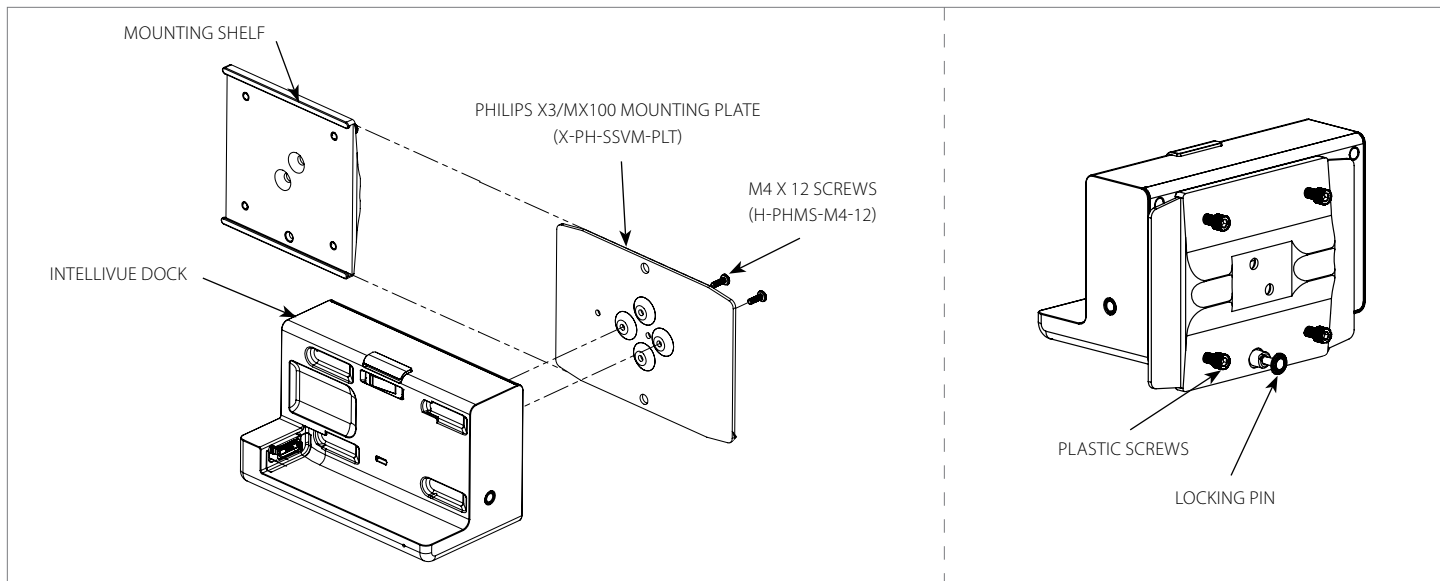

Figure 1
1. First install the **PHILIPS X3/MX100 MOUNTING PLATE** to the **INTELLIVUE DOCK** with 4x **M4 SCREWS** (Figure 1).